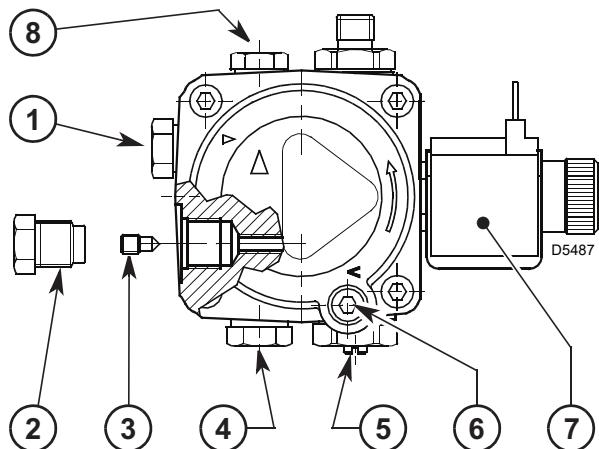

Fig. 15
- If necessary, recalibrate the pressure using the screw 5) Fig. 15.